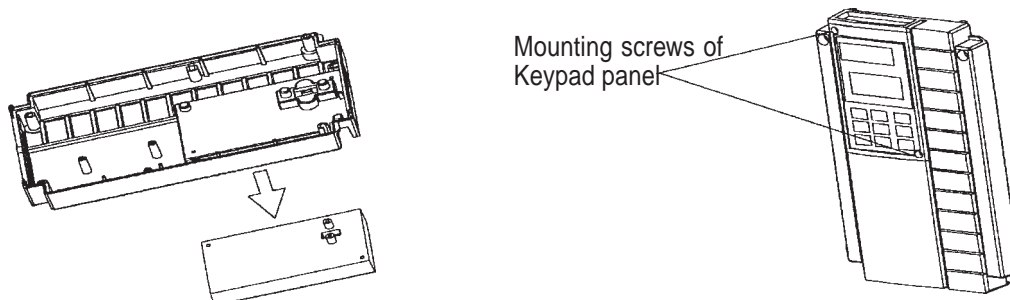

Fig.1-3-3 Removing the Keypad Panel (for drives of 30 HP or less)
(2) Removing the Keypad Panel
After removing the cover as explained in (1), loosen the keypad panel mounting screws and remove as shown in Figure 1.3.3 for drives 40HP or less.